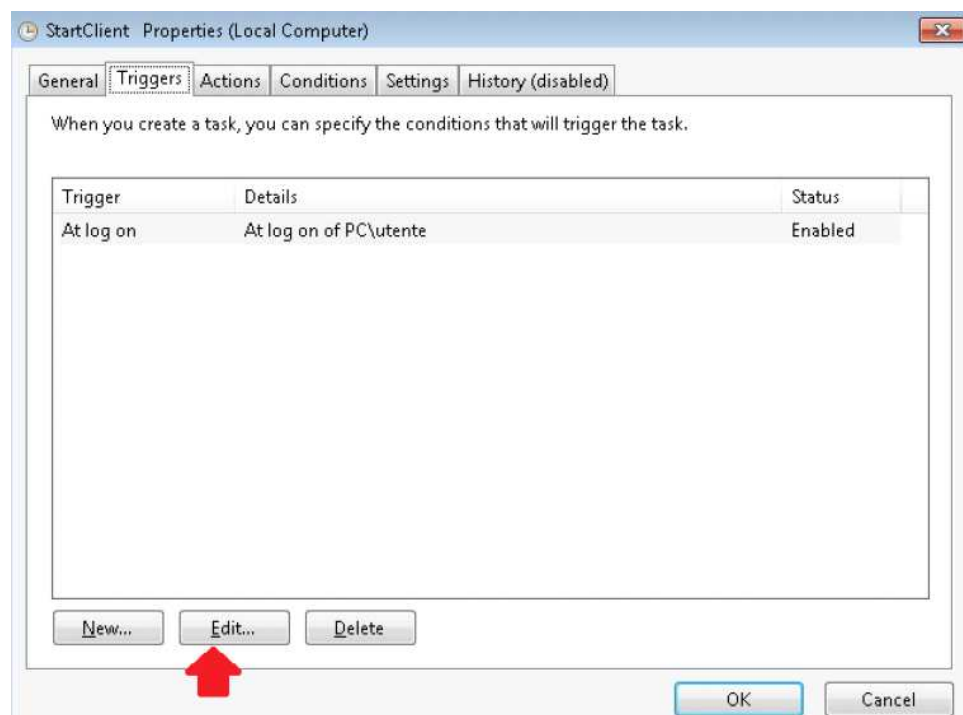

Fig. C.44: Triggers tab
STEP 11 – Please select *Triggers* tab and click on *Edit* button to modify trigger settings (Fig. C.44).